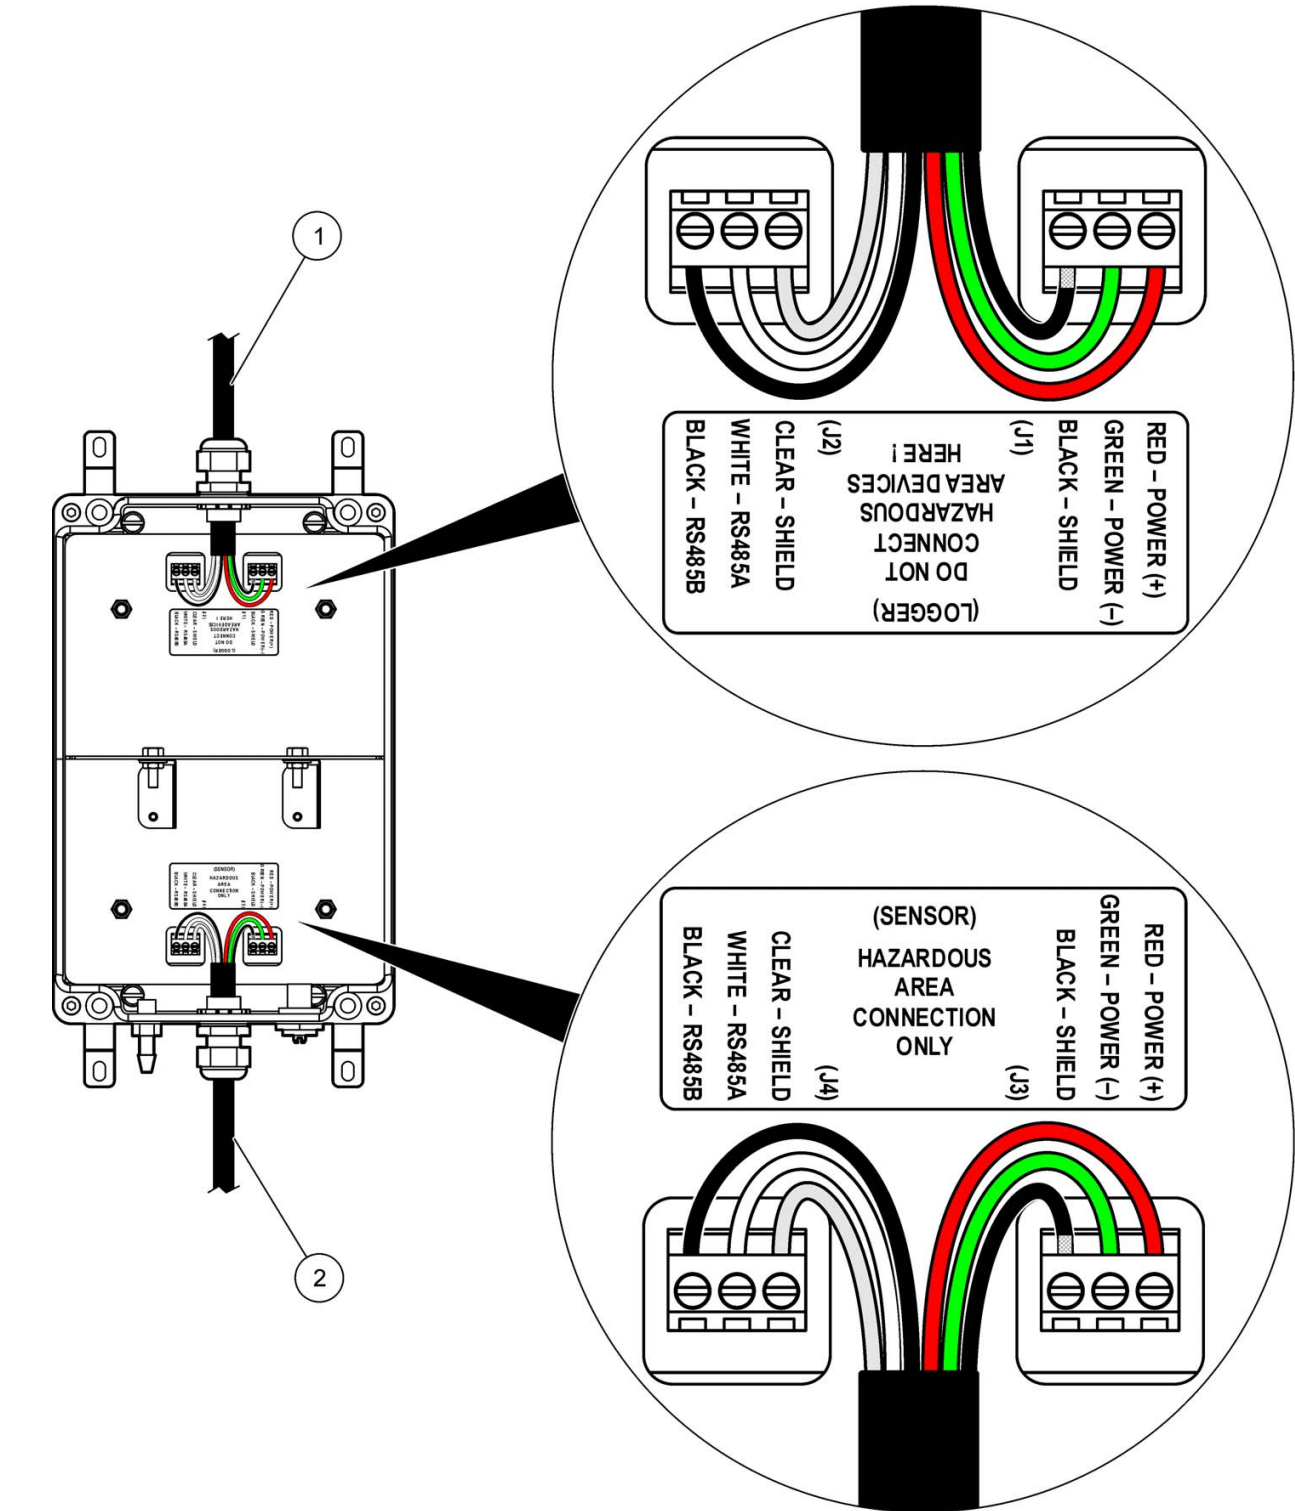

Figure 3 Barrier wiring
2. Insert the cable from the Flo-Dar sensor through the strain relief fitting on the side of the barrier with the hazardous area connection label (Figure 3 on page 14). Tighten the strain relief.
3. If the Flo-Dar sensor has the optional SVS component, insert the cable from the SVS sensor through the strain relief fitting on the side of the second barrier with the hazardous area connection label (Figure 3 on page 14). Tighten the strain relief.
5. Install the wires in terminals J3 and J4 as shown in Figure 3 on page 14. Pull lightly after each insertion to make sure the connections are tight.
6. Insert the cable from the logger or controller through the strain relief fitting on the other side of the barrier (Figure 3 on page 14). Tighten the strain relief.
8. Install the wires in terminals J1 and J2 as shown in Figure 3 on page 14. Pull lightly after each insertion to make sure the connections are tight.